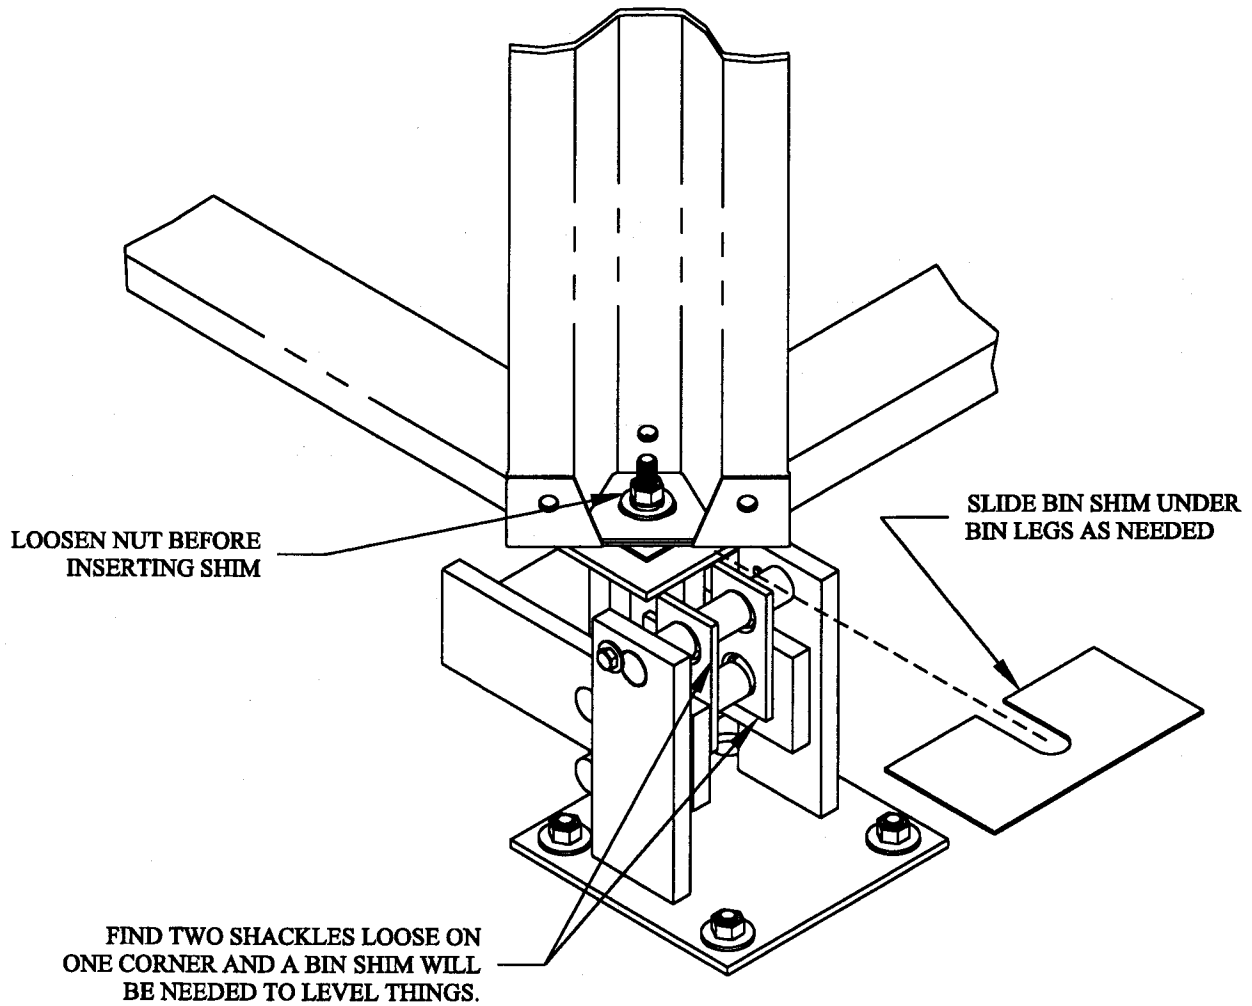

FIG. 21
STEP 21. Push upward on the bin. If it rocks up and down, this may be because the concrete isn't level. This is easily corrected. At each corner, the two shackles should both be tight or more often the case, one will be tight and one loose. Check each corner and find where two shackles are loose (this is where the bin is rocking). Loosen the nut on the bin leg. Slide a bin shim(s) under bin legs. See Fig. 21.
- 5) Make sure that bin does not rock diagonally. To check this, step on each corner of the bin leg. If it rocks, shims are needed. See Fig. 21.